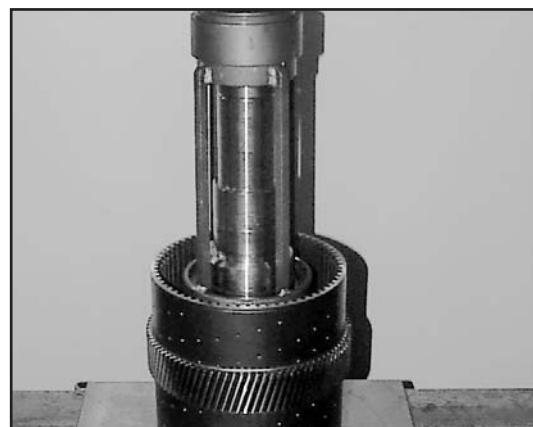

Figure 282
Pre-load compression spring by means of special device (S) and squeeze snap ring into the annular groove of the plate carrier (arrow), see Figure 282!